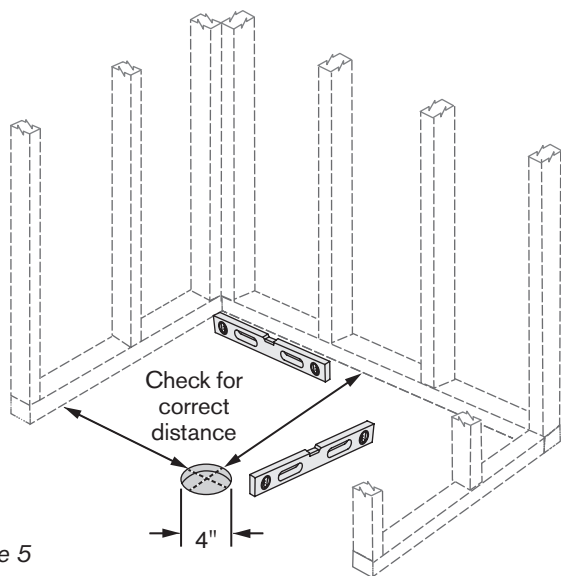

Figure 5
- 1** Check shower pocket area for level and for correct dimensions. Make sure drain hole in floor is the correct distance from studs and 4" diameter (or 4" x 4" square). The floor must be within 1/8" of level, especially around drain box-out. (Figure 5)